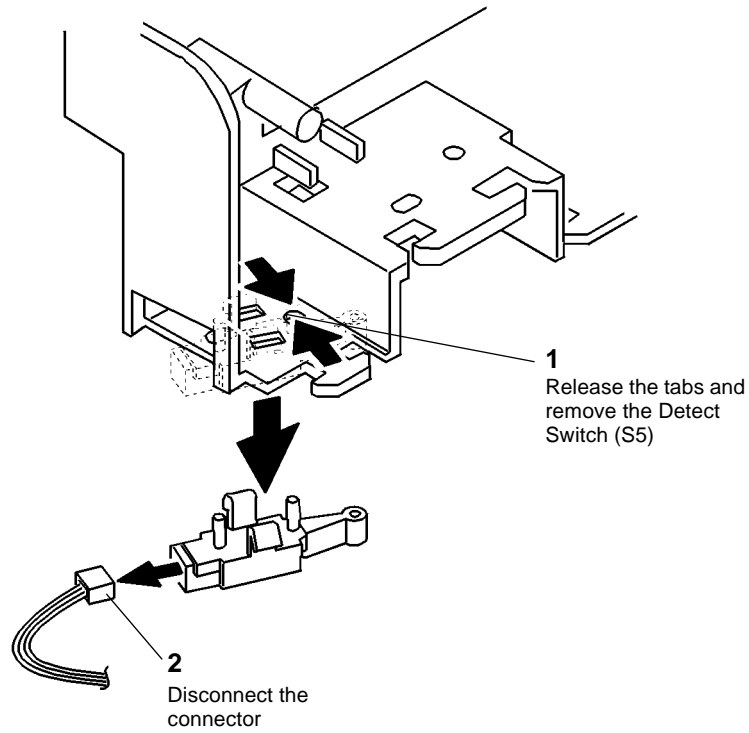

Figure 3 Removing the Detect Switch (S5)
3. (Figure 3): Remove the Detect Switch (S5).